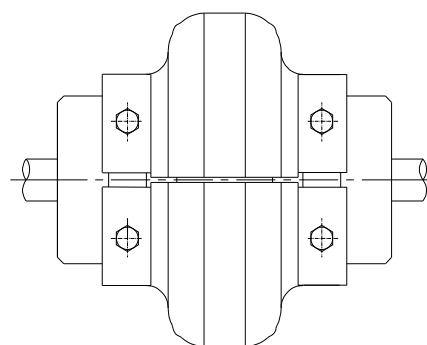

Fig.5
- III. Rotate the shaft 180° & assemble second half element as per above procedure refer Fig.5.